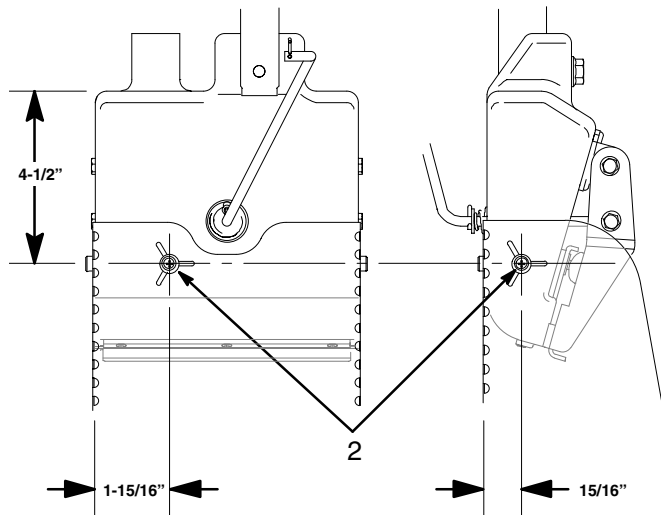

Fig. 1
2. Fig. 1. Measure and install screws (2) on 6-in. models.